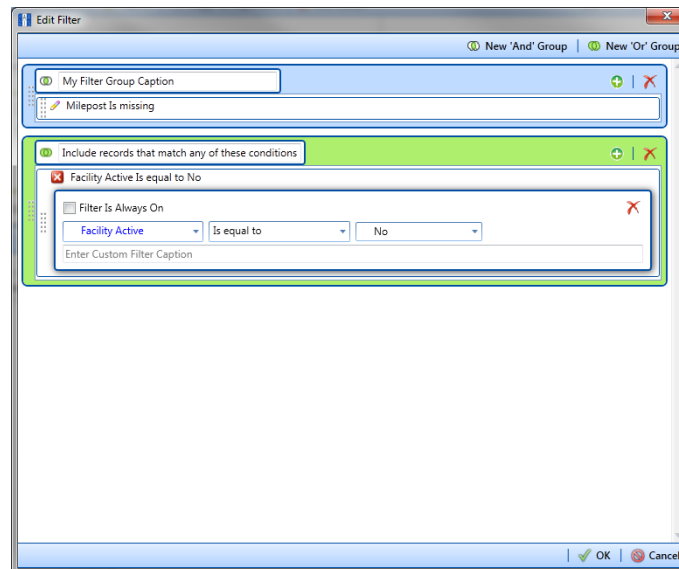

Figure 10-38. New 'Or' Filter Group
- Click  **New 'Or' Group** to open a filter properties group box (Figure 10-38).